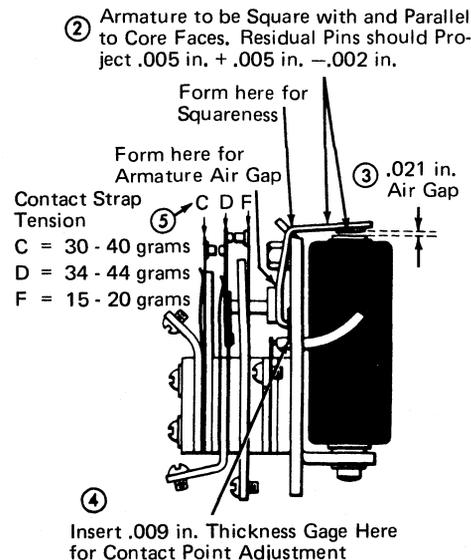

Figure 2-67. Multi-Contact Relay Adjustments
3. The armature air gap should be .021-inch and may be obtained by forming the armature (Figure 2-67).
4. With a .009-inch thickness gage inserted between the tail of the armature and the relay frame (Figure 2-67), adjust the contact support straps so that both the N/O and the N/C contacts have a clearance of .001- to .006-inch.